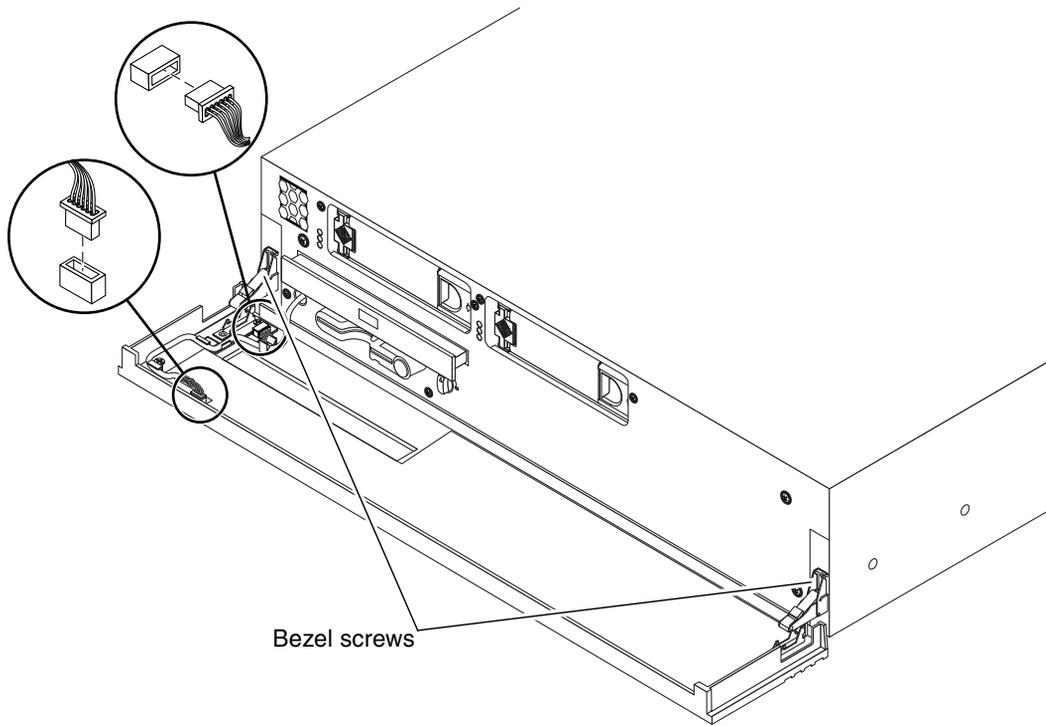

FIGURE 3-2 Disconnecting the Bezel Cables
4. **Disconnect the bezel cables (the server status indicator cable and the alarm LED cable) connecting the bezel assembly to the server (FIGURE 3-2).**
3. Reconnect the bezel cables (FIGURE 3-2).